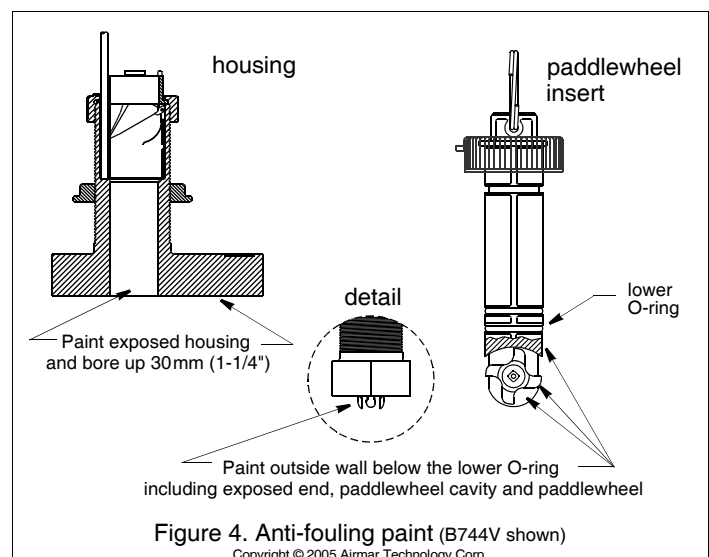

Figure 4. Anti-fouling paint (B744V shown)
**B744V/VL**—Paint the following surfaces (see Figure 4).